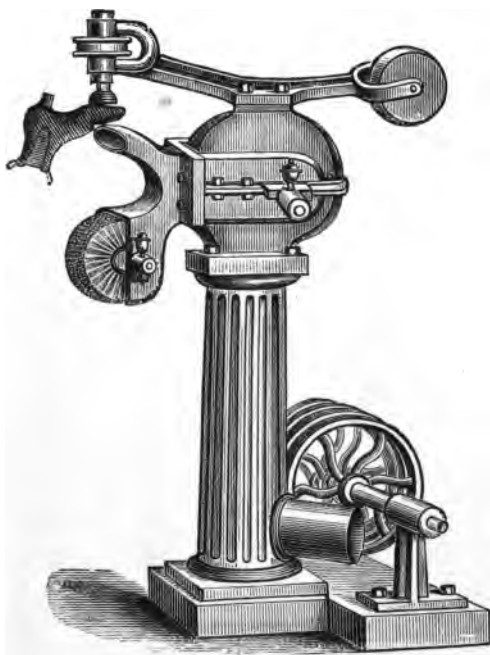

Fig. 101.—BLAKE BUFFING MACHINE.
**Blake Buffing Machine.**—This machine, of which Fig. 101 is a representation, consists of an upright column with a head which holds the chief working parts, the driving apparatus being stationed at the foot of the column. On the boot being brought in contact with the